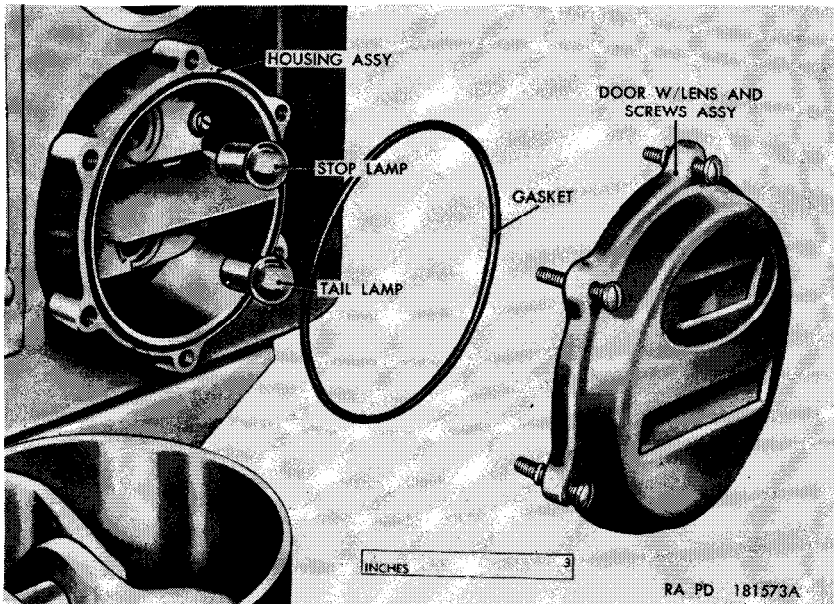

Figure 77. Blackout taillight and stoplight assembly—partially exploded view.
a. Blackout Taillight and Stoptlight Assembly (Right) (fig. 77).
- (1) *Lamp replacement.* Unscrew the six screws securing the door with lens and screws assembly to the housing assembly and remove the door and gasket. Push defective lamp in and turn counterclockwise to remove. Insert the new lamp and turn clockwise to lock in place. Examine